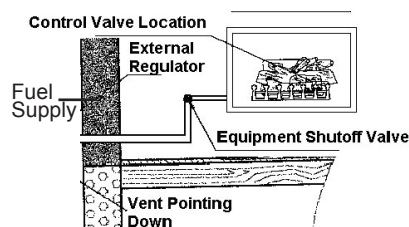

Figure 19-A Checking Gas Joints for NG
3. Check all joints from gas tank to equipment shutoff valve (see Figure 19). Apply mixture of liquid soap and water to gas joints. Bubbles forming show a leak.